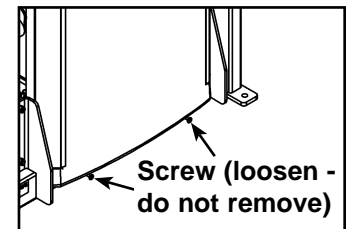

Figure 4
- F. Loosen bottom two screws shown in Figure 4.